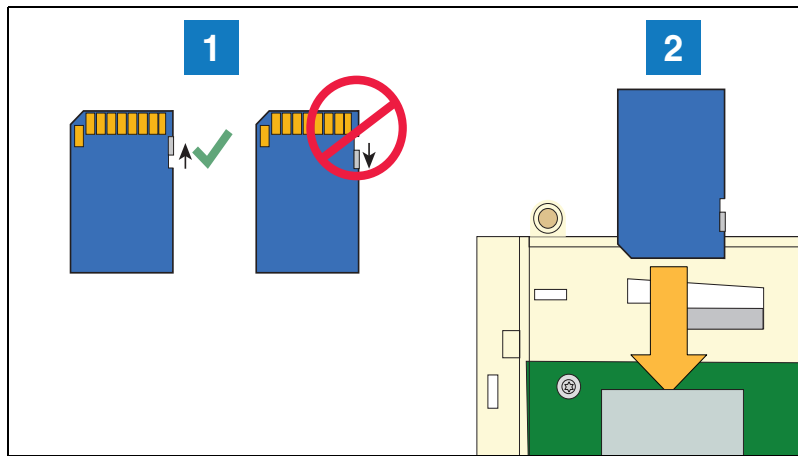

Figure 5. Inserting SD Card In Its CPU board Enclosure
2. When replacing the SD card, always check the read/write-protect switch on the side of the card is in the position shown in Figure 5. Orient the card, contacts down and angled corner to the left, as you gently push the card into its enclosure until it clicks into the enclosure's latch.
LEGEND FOR NUMBERED BOXES IN Figure 5